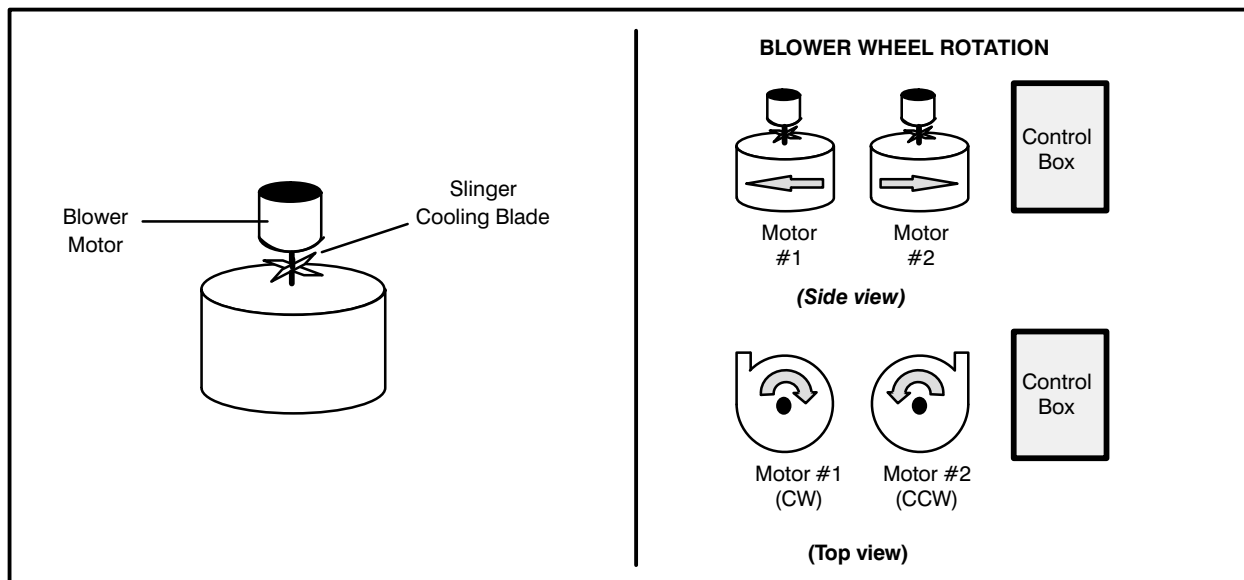

FIGURE 1
1. Remove the back of the oven body and verify proper motor rotation. (See FIGURE 1)
For motor placement, the direction of rotation is viewed left to right from the oven's rear. Typically the motor direction is referenced to the end of the shaft (EOS). However due to the vertical positioning of the motors in Blodgett Conveyor ovens, it is more instructive to reference the end of the motor (EOM) as looking from the rear of the oven. In FIGURE 1 all directions are taken from EOM. The correct rotation amperage draw is approximately 1 amp. If the measured amperage is less than .5, check for proper motor rotation direction.